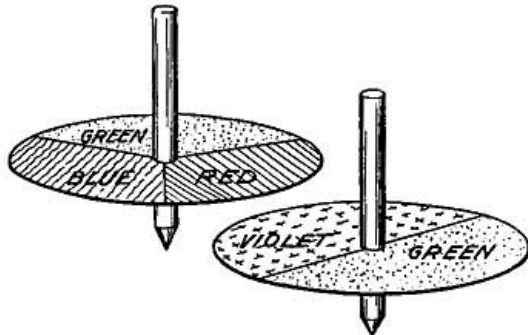

FIG. 88.—Violet and green give blue. Green, blue, and red give white.
**Colors.** If one half of a cardboard disk (Fig. 88) is painted green, and the other half violet, and the disk is slipped upon a toy top, and spun rapidly, the rotating disk will appear blue; if red and green are used in the same way instead of green and violet, the rotating disk will appear yellow. A combination of red and yellow will give orange. The colors formed in this way do not appear to the eye different from the spectrum colors, but they are actually very different. The spectrum colors, as we saw in the preceding Section, are pure, simple colors, while the colors formed from the rotating disk are in reality compounded of several totally different rays, although in appearance the resulting colors are pure and simple.
**134. The Essential Colors.** Strange and unexpected facts await us at every turn in science! If the rotating cardboard disk (Fig. 88) is painted one third red, one third green, and one third blue, the resulting color is white. While the mixture of the spectral colors produces white, it is not necessary to have all of the spectral colors in order to obtain white; because a mixture of the following colors alone, red, green, and blue, will give white. Moreover, by the mixture of these three colors in proper proportions, any color of the spectrum, such as yellow or indigo or orange, may be obtained. The three spectral colors, red, green, and blue, are called primary or essential hues, because all known tints of color may be produced by the careful blending of blue, green, and red in the proper proportions; for example, purple is obtained by the blending of red and blue, and orange by the blending of red and yellow.